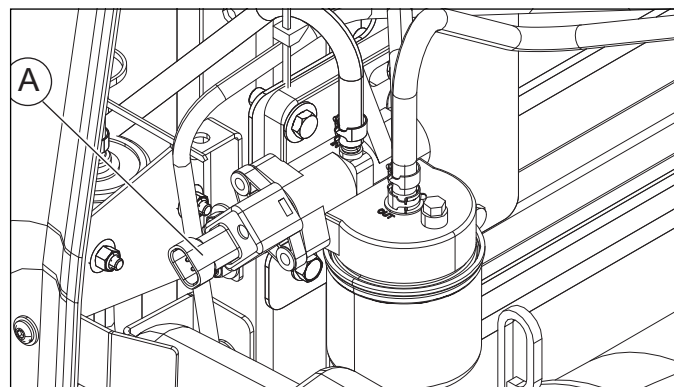

Figure 3-55. Heated Fuel Filter
See Figure 3-55. An optional heated fuel filter (A) prevents diesel fuel from gelling in extremely cold temperatures. Heating cycles are automatically controlled by the Power Zone Autolight.